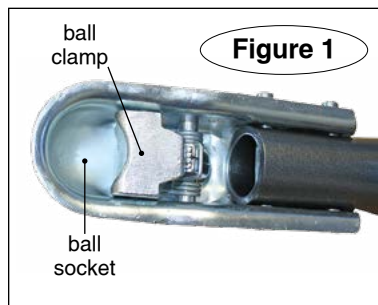

Figure 1
- **Inspect the system before towing** – if any component is damaged, replace it before towing. Also, check the coupler ball clamp and ball socket (Figure 1) for fractures or cracks in the steel.